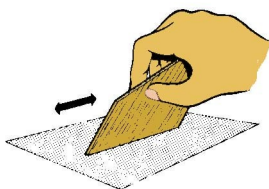

Figure 2
- **Step 3** Cut out the three fins from 1/16" balsa sheet, using the template provided. Give the surfaces a careful sanding with 220-grit to remove the fuzziness. Round over all of the **outer edges** except the root edge with 400-grit paper. Square up the root edge as shown in Fig. 2. Clamp the fins together, then apply a layer of